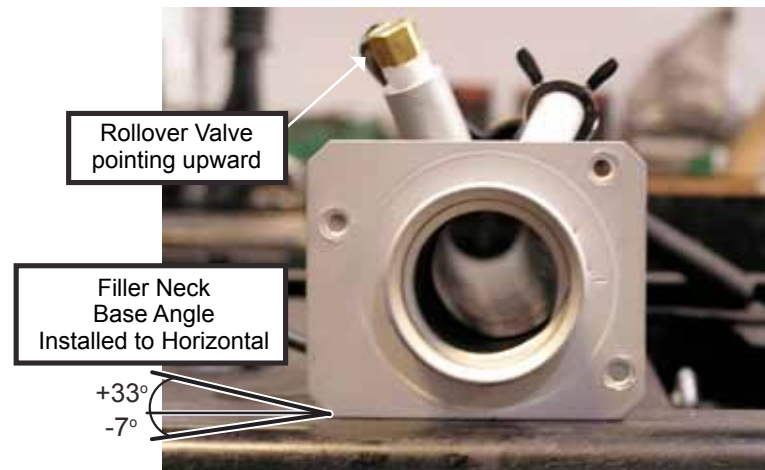

Figure 10.35.2
The fuel filler neck (5) must be installed with the proper orientation on the body. The neck should be installed with the roll-over valve pointing upward, with the bottom edge of the neck oriented parallel to the ground, plus 33 to minus 7 degrees. See **Figure 10.35.2** for the proper orientation.